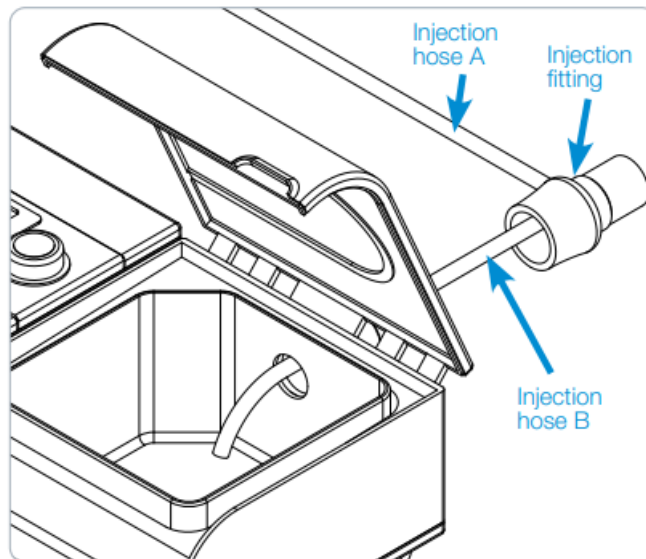

Figure 2. Connect the Injection fitting
1. Position the Injection fitting onto the port of your humidifier (where your PAP hose was connected), allowing the smaller Injection hose B to enter into the reservoir (Figure 2). The end of the tubing should be positioned over the heat plate.